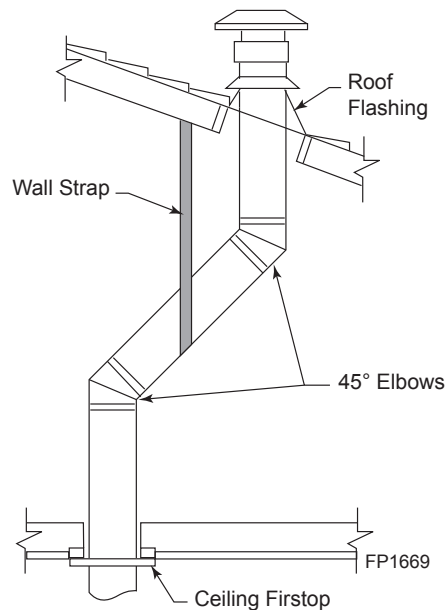

Figure 32 -
1. Determine the route your vertical venting will take. If ceiling joist, roof rafters or other framing will obstruct the venting system, consider an offset. Refer to *Figure 32* to avoid cutting load bearing members.
NOTE: If an offset is needed to avoid obstructions, you must support the vent pipe every three (3) feet. Use wall straps for this purpose. *Figure 32.* Whenever possible, use 45° elbows instead of 90° elbows. The 45° elbow offers less restriction to the flow of the flue gases and intake air.